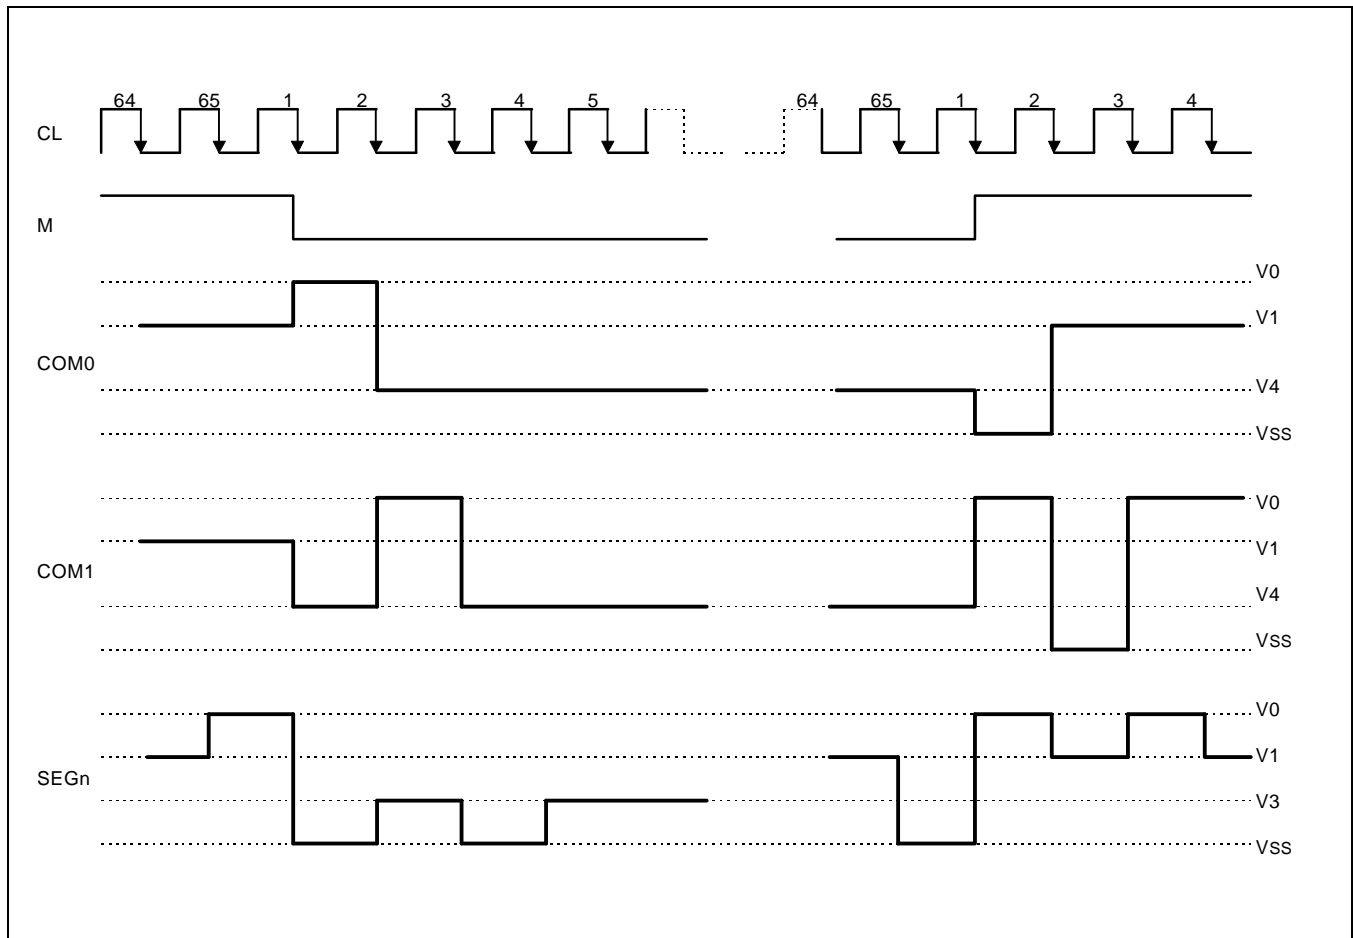

Figure 6. 2-Frame AC Driving Waveform
This circuit generates some signals to be used in the LCD. The display clock CL generates a clock to the line counter and a latch signal to the display data latch. The line address of the on-chip RAM is generated in synchronization with the display clock (CL) and the 100-bit display data is latched by the display data latch circuit in synchronization with the display clock. The display data which is read to the LCD driver is completely independent of the access to the display data RAM from the microprocessor. The display clock generates an LCD AC signal (M) which enables the LCD driver to make an AC drive waveform, and also generates an internal common timing signal and start signal to the common driver. 2-frame AC driver waveforms and the internal timing signal are shown in Figure 6.